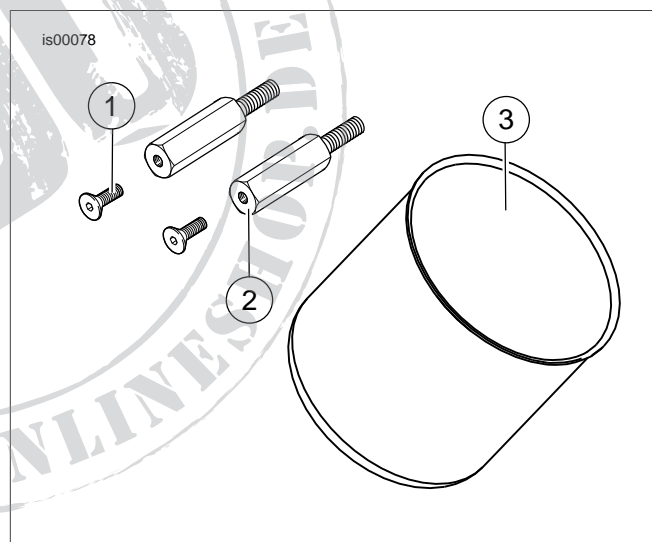

Figure 1. Service Parts: Two Inch Gauge Housing Kit (-J03528)
See Figure 1 and Table 1.
3. See Figure 1. Thread the standoffs into the back of the gauge(s) and hand tighten.